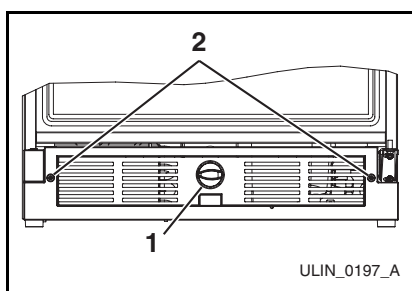

Figure 37
1. Remove the control knob (**Figure 37, 1**) by pulling it straight out, away from grille.
2. Remove two screws from grille (**Figure 37, 2**) and save.